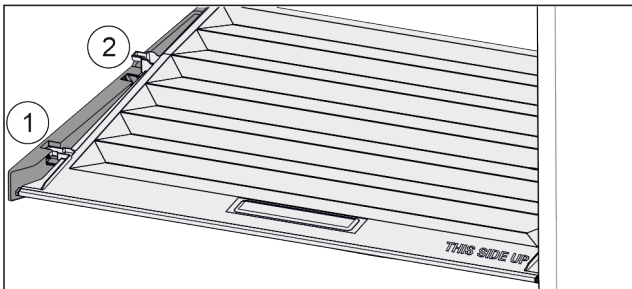

Fig. 49
- ▶ Pull the lid up at the front to the opening in the retaining parts Fig. 49 (1).
- ▶ Lift from the back and pull it up and out Fig. 49 (2).